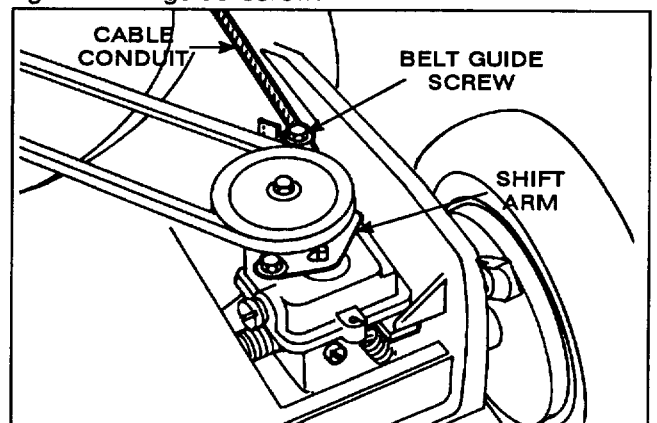

Figure 22
3. ADJUSTMENT (Fig. 22)—Loosen belt guide screw until cable conduit slides. Move handle-mounted wheel drive control to DISENGAGE position. Move shift arm toward clamp screw and hold in place. Pull cable conduit to remove slack and tighten belt guide screw.